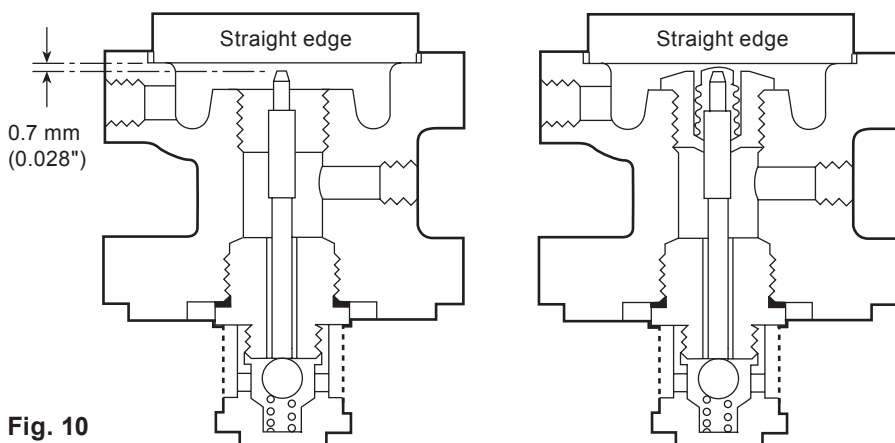

Fig. 10
13. Check with straight edge again, that with the top of the bellows pressed lightly onto the top of the plunger, there is a slight clearance - a mere line of light between the straight edge and the top of the bellows (see Figure 10).
14. Before reassembling the valve make sure that the gasket faces on both the pilot valve block and the body are clean and that the main valve spring (16) is positioned correctly on top of the main valve head.
15. Fit new gasket (15) and secure the pilot valve block assembly onto the body with the nuts (11). Tighten these nuts to the torques shown in Table 1.
17. Refit the two diaphragms (9) making sure that they are fitted the same way round as they were removed and that all contact surfaces are clean. If necessary two new diaphragms can be fitted.
18. Place the bottom spring plate (7) in position and secure the spring housing with the 4 x M10 nuts (8) tightening to a torque of 50 N m.
19. Replace the spring (6) and the top spring plate (5) turning the adjustment screw (1) until it just locates on the top spring plate. Replace the cover (12) and the 'C' washer (3).